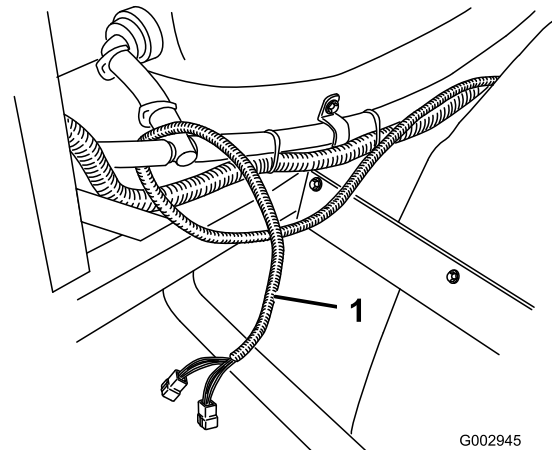

Figure 27
9. Once past the seat box, route the harness along the path of the front agitation hose to the rear, right side of the machine and the right boom frame upright (Figure 27).